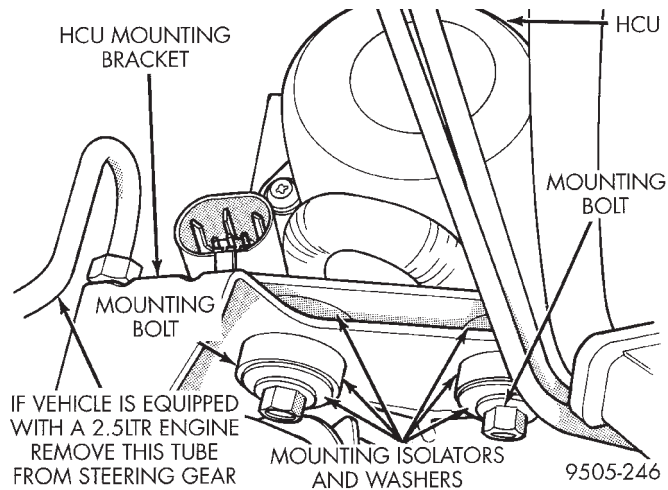
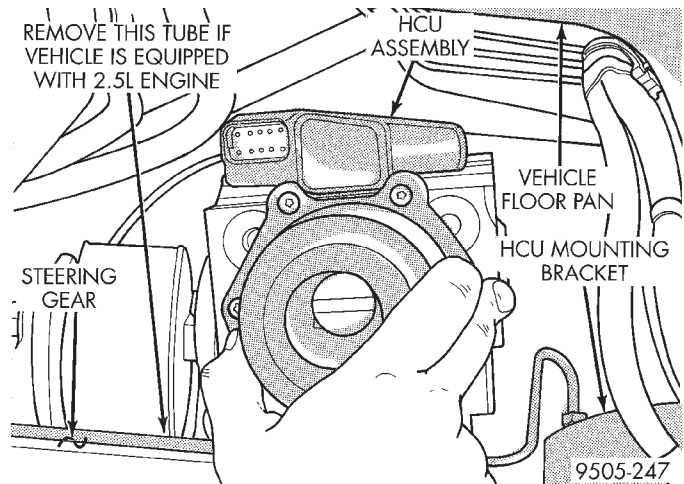

Fig. 21 Rear Attachment Of HCU To Mounting Bracket
Fig. 22 Removal Of HCU Assembly From Vehicle
(13) Remove the 2 bolts (Fig. 21) attaching the rear of the HCU to its mounting bracket. **If vehicle being service is equipped with a 2.5 ltr. engine, remove the tube as indicated in (Fig. 21) and (Fig. 22). Removing this tube will make it easier to remove the HCU assembly from the vehicle.**
(14) Remove HCU from its mounting bracket. Then remove HCU from vehicle out through the exhaust tunnel in the floor pan of the vehicle (Fig. 22).
(1) Install the HCU back in the vehicle and on its mounting bracket using the reverse order of its removal.
(2) Install mounting isolators, washers and attaching bolts, (Fig. 21) mounting the rear of the HCU to